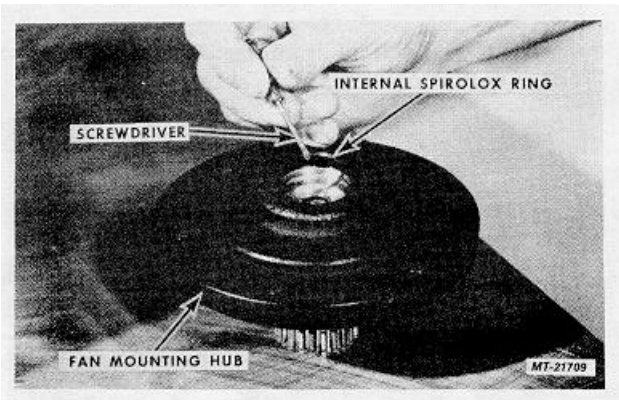

Fig. 17
14. Remove the Internal Spirolox Ring and discard, Fig. 17. The Spirolox style snapping will be replaced with a "C" shaped internal snapping upon reassembly of the Fan Clutch.